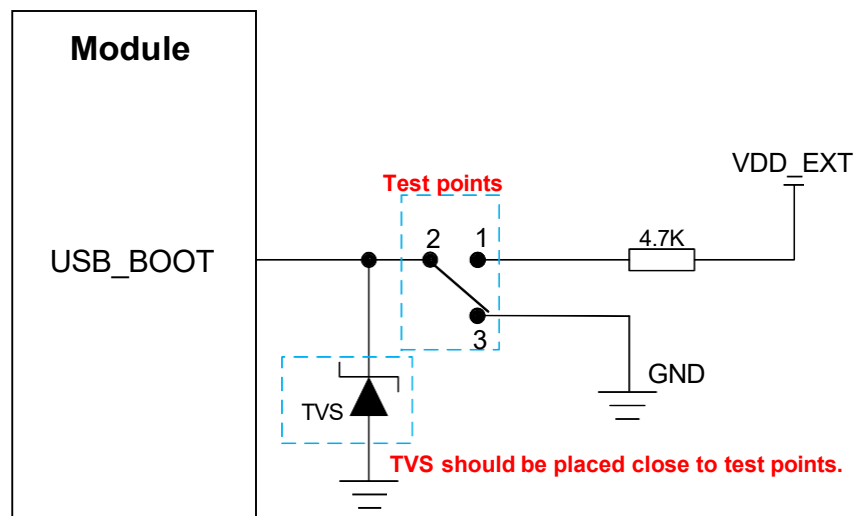

Figure 18: Reference Design of USB_BOOT
3. If you need to manually force the module to enter emergency download mode, directly connect the test points shown in **Figure 18**.